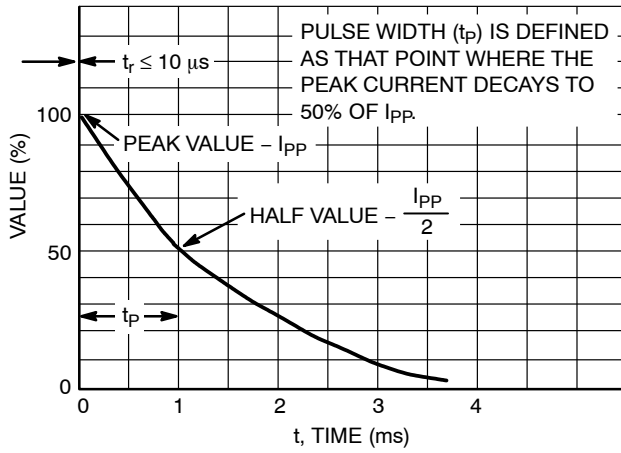
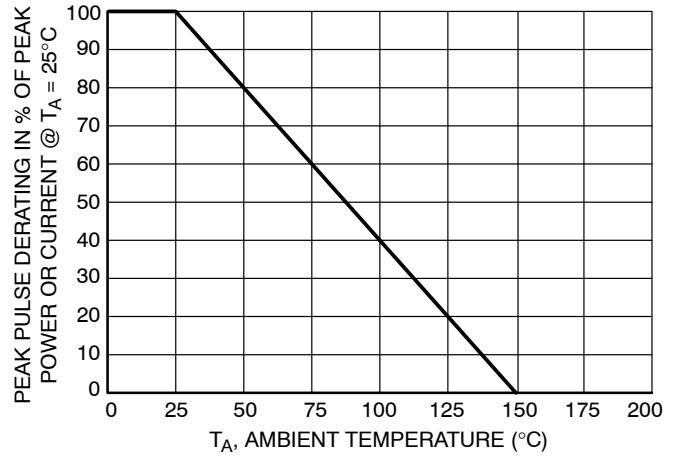

Figure 5. Pulse Waveform
Figure 6. Pulse Derating Curve
1. Non-repetitive current pulse per Figure 5 and derate above $T_A = 25^{\circ}\text{C}$ per Figure 6.
5. Surge current waveform per Figure 5 and derate per Figure 6